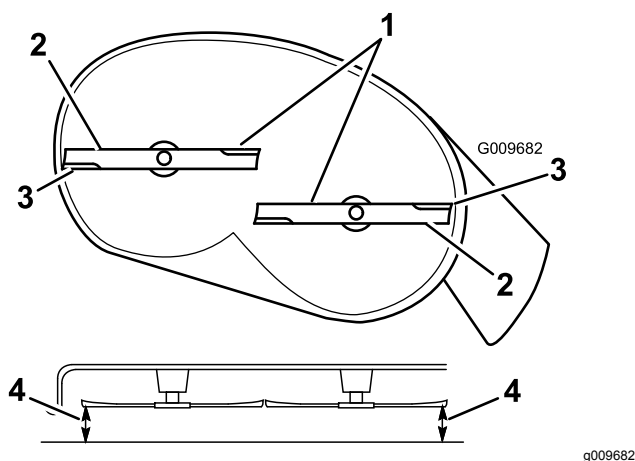
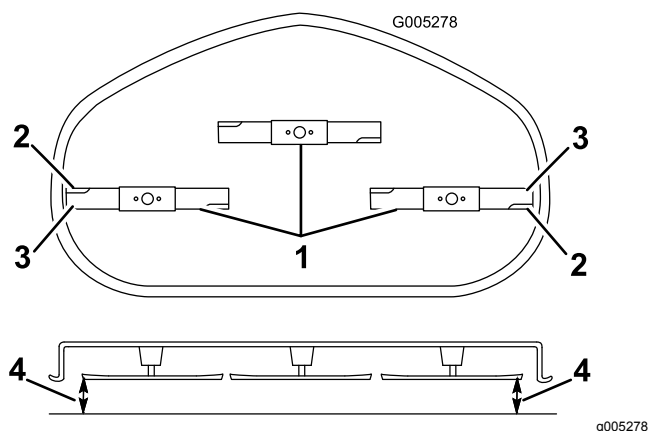

Figure 50
Figure 51
4. Carefully rotate the blades so that they are all side to side (Figure 50 and Figure 51).
5. Measure between the outside cutting edges and the flat surface (Figure 50 and Figure 51).